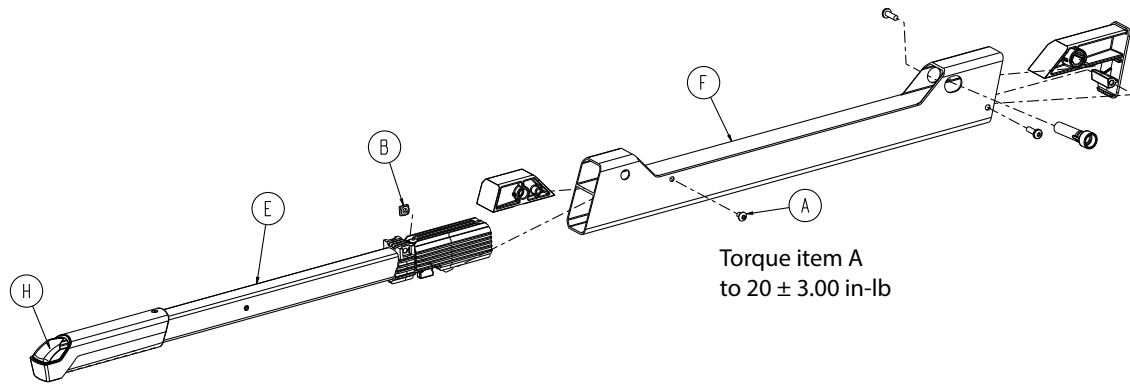
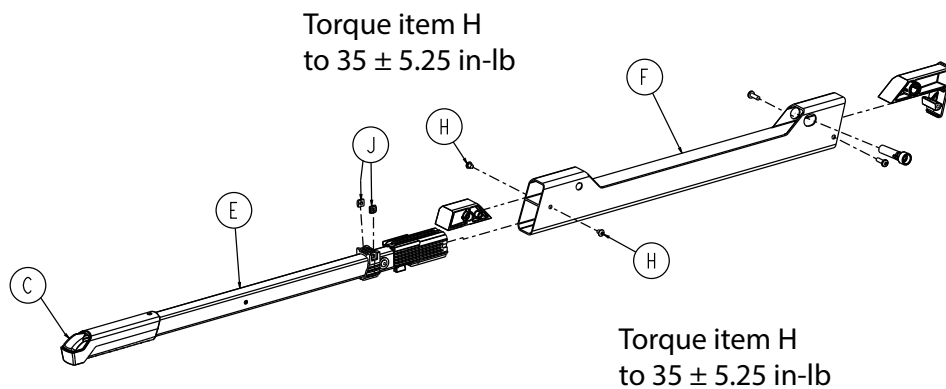

Figure 36 – Standard option (patient right shown)
Figure 37 – Extended option (patient right shown)
2. **Standard option:** Using a 1/8" hex driver, remove the button head cap screw (A) that secures the lower handle outer housing (F) to the lower handle slider assembly (E) (Figure 36). Discard the screw.
3. **Extended option:** Using a 1/8" hex driver, remove the button head cap screws (H) that secure the lower handle outer housing (F) to the lower handle slider assembly (E) (Figure 37). Discard the screws.
4. Squeeze the lower handle button (H or C) to extend and remove the lower handle slider assembly (Figure 36 or Figure 37). Discard the lower handle slider assembly.